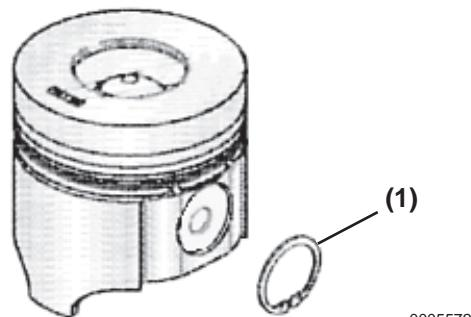

Figure 5-135
5. Install a new snap ring into the piston pin snap ring groove on the opposite side of the piston (Figure 5-135, (1)).